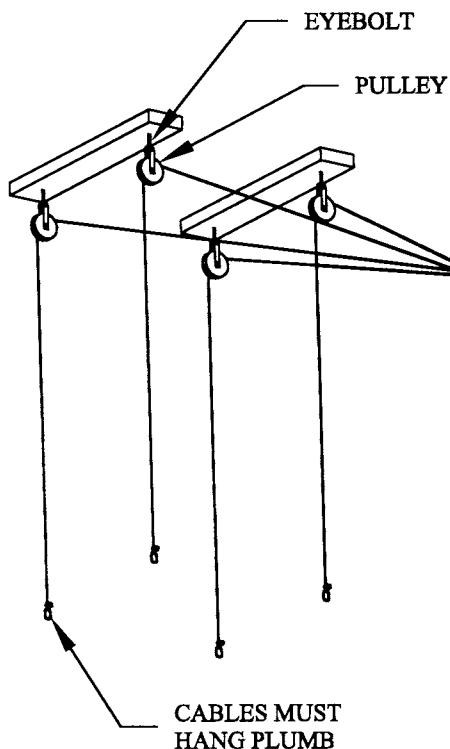

FIG. 2
STEP 2. These should be spaced evenly from the center of the feed line hopper so that when the eyebolt and pulleys are mounted and the cables are attached to the winch line the cables will hang plumb. Refer back to Fig. 2.